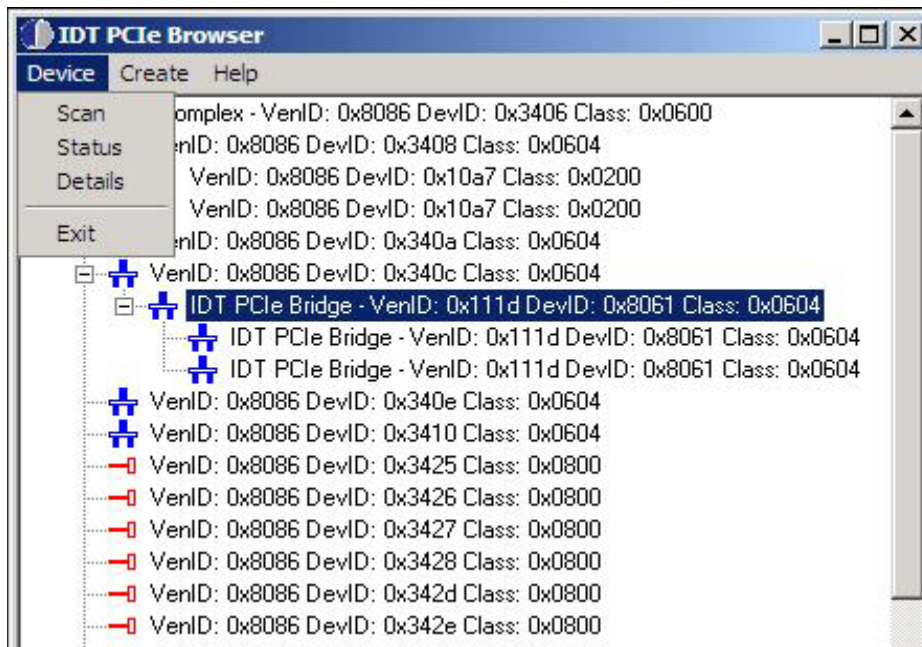

Figure 6 Device Menu
- Right-click the mouse button and select “Details” to display the configuration space of the selected device. Alternatively, you may click on the pull down menu item “Device” and select the option “Details”. See Figure 6 below.